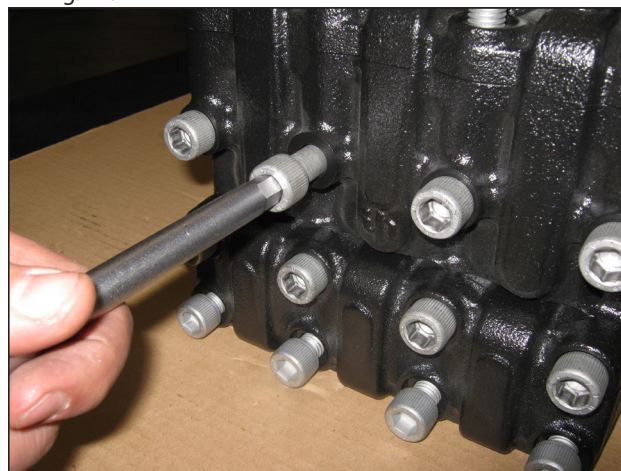

Fig. 42
- A) Unscrew the M12x190 head fixing screws as indicated in Fig. 42.